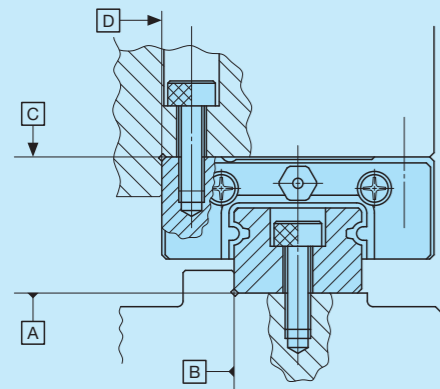

Fig. 2 Reference mounting surface and typical mounting structure
① Mounting surface, reference mounting surface and general mounting structure
When mounting the ML(F) series and LWL(F) series, properly align the reference mounting surfaces B and D (D1 or D2) of the track rail and slide unit with the reference mounting surface of the table and bed before fixing them. (See Fig. 2) Reference mounting surfaces B and D (D1 or D2) and mounting surfaces A and C are precisely ground. By machining the mounting surface of the mating member, such as machine or device, to high accuracy and mounting them properly, stable linear motion with high accuracy is obtained.